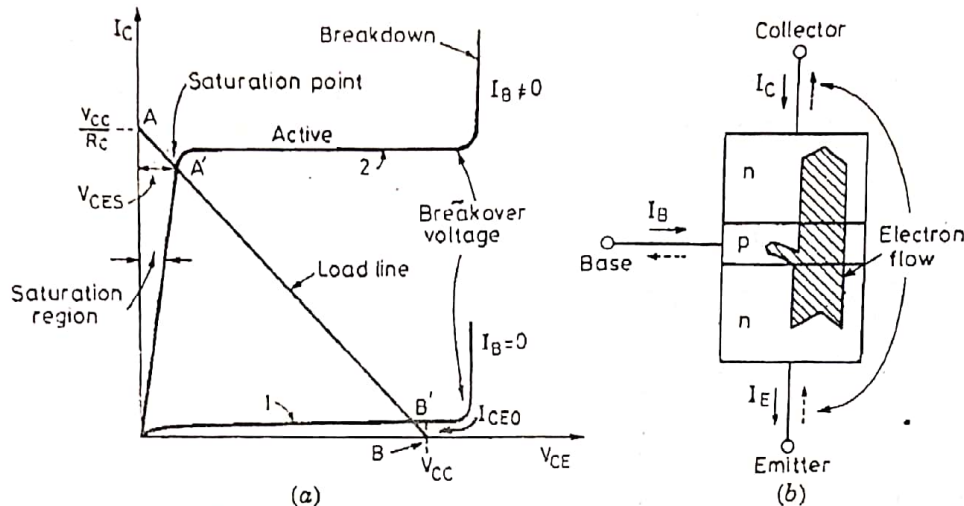
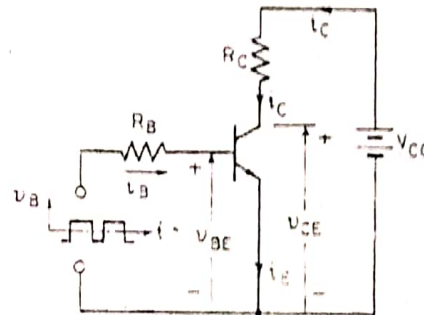
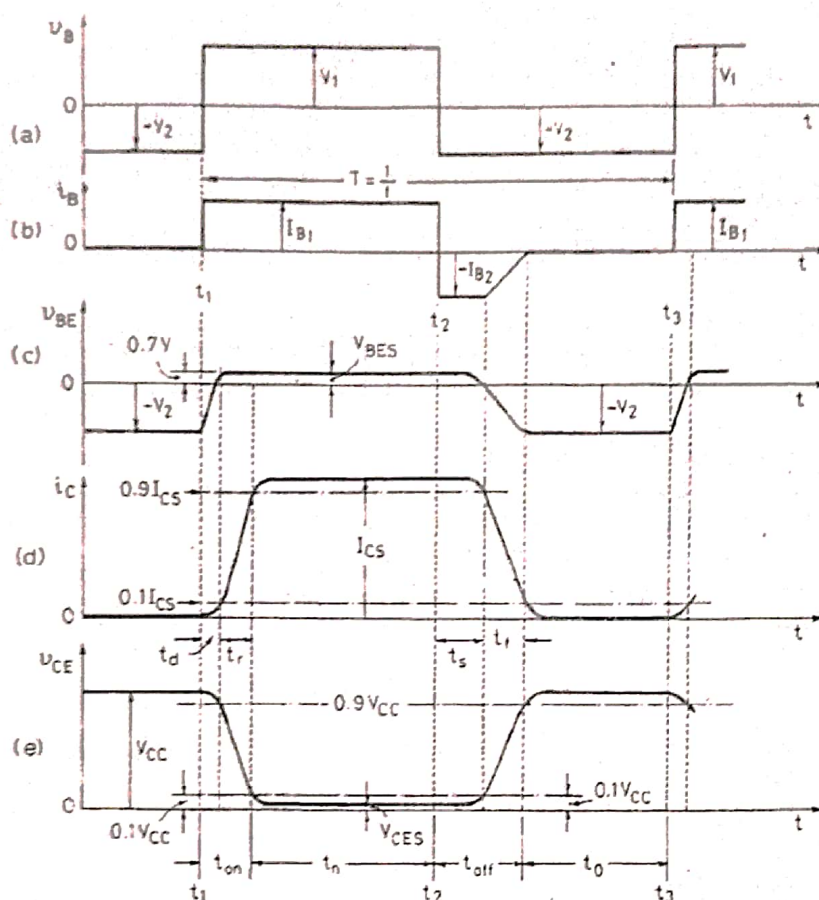

Fig. 2.7. (a) Output characteristics and load line for npn transistor and (b) electron flow in an npn transistor.
Fig. 2.8. *npn* transistor with resistive load.
Fig. 2.9. Switching waveforms for npn power transistor of Fig. 2.8.
Fig. 2.7 (a) shows two of the output characteristic curves, 1 for $I_B = 0$ and 2 for $I_B \neq 0$. The initial part of curve 2, characterised by low V_{CE} , is called the saturation region. In this region, the transistor acts like a switch. The flat part of curve 2, indicated by increasing V_{CE} and almost constant I_C , is the active region. In this region, transistor acts like an amplifier. Almost vertically rising curve is the breakdown region which must be avoided at all costs.
This is the equation of load line. It is shown as line AB in Fig. 2.7 (a). A load line is the locus of all possible operating points. Ideally, when transistor is on, V_{CE} is zero and $I_C = V_{CC}/R_C$. This collector current is shown by point A on the vertical axis. When the transistor is off, or in the cut-off region, V_{CC} appears across collector-emitter terminals and there is no collector current. This value is indicated by point B on the horizontal axis. For the resistive load, the line joining points A and B is the load line.
Relation between α and β . Most of the electrons, proportional to I_E , given out by emitter, reach the collector as shown in Fig. 2.7 (b). In other words, collector current I_C , though less than emitter current I_E , is almost equal to I_E . A symbol α is used to indicate how close in value these two currents are. Here α , called *forward current gain*, is defined as
Transistor Switch. Transistor operation as a switch means that transistor operates either in the saturation region or in the cut-off region and nowhere else on the load line. As an ideal switch, the transistor operates at point A in the saturated state as closed switch with $V_{CE} = 0$ and at point B in the cut-off state as an open switch with $I_C = 0$, Fig. 2.7 (a). In practice, the large base current will cause the transistor to work in the saturation region at point A' with small saturation voltage V_{CES} . Here subscript S is used to denote saturated value. Voltage V_{CES} represents on-state voltage drop of the transistor which is of the order of about 1 V. When the control, or base, signal is reduced to zero, the transistor is turned off and its operation shifts to B' in the cut-off region, Fig. 2.7 (a). A small leakage current I_{CEO} flows in the collector circuit when the transistor is off.
2.5.1.2. BJT Switching Performance. When base current is applied, a transistor does not turn on instantly because of the presence of internal capacitances. Fig. 2.9 shows the various switching waveforms of an *npn* power transistor with resistive load between collector and emitter, Fig. 2.8.
When input voltage v_B to base circuit is made $-V_2$ at t_0 , junction *EB* or *EBJ* is reverse biased, $v_{BE} = -V_2$, the transistor is off, $i_B = I_C = 0$ and $v_{CE} = V_{CC}$, Fig. 2.9. At time t_1 , input voltage v_B is made $+V_1$ and i_B rises to I_{B1} as shown in Fig. 2.9. After t_1 , base-emitter voltage v_{BE} begins to rise gradually from $-V_2$ and collector current i_C begins to rise from zero (actually a small leakage current I_{CEO} exists as shown in Fig. 2.7 (a)) and collector-emitter voltage v_{CE} starts falling from its initial value V_{CC} . After some time delay t_d , called delay time, the collector current rises to $0.1 I_{CS}$, v_{CE} falls from V_{CC} to $0.9 V_{CC}$ and v_{BE} reaches $V_{BES} = 0.7 \text{ V}$. This delay time is required to charge the base-emitter capacitance to $V_{BES} = 0.7 \text{ V}$. Thus, delay time t_d is defined as the time during which the collector current rises from zero to $0.1 I_{CS}$ and collector-emitter voltage falls from V_{CC} to $0.9 V_{CC}$.
After delay time t_d , collector current rises from $0.1 I_{CS}$ to $0.9 I_{CS}$ and v_{CE} falls from $0.9 V_{CC}$ to $0.1 V_{CC}$ in time t_r . This time t_r is known as rise time which depends upon transistor junction capacitances. Rise time t_r is defined as the time during which collector current rises from $0.1 I_{CS}$ to $0.9 V_{CC}$ and collector-emitter voltage falls from $0.9 V_{CC}$ to $0.1 V_{CC}$. This shows that total turn-on time $t_{on} = t_d + t_r$. Value of t_{on} is of the order of 30 to 300 nano seconds. The transistor remains in the on, or saturated, state so long as input voltage stays at V_1 , Fig. 2.9 (a)
In case transistor is to be turned off, then input voltage v_B and input base current i_B are reversed. At time t_2 , input voltage v_B to base circuit is reversed from V_1 to $-V_2$. At the same time, base current changes from I_{B1} to $-I_{B2}$ as shown in Fig. 2.9 (b). Negative base current i_{B2} removes excess carriers from the base. The time t_s required to remove these excess carriers is
called storage time and only after t_s , base current I_{B2} begins to decrease towards zero. Transistor comes out of saturation only after t_s . Storage time t_s is usually defined as the time during which collector current falls from I_{CS} to $0.9 I_{CS}$ and collector-emitter voltage v_{CE} rises from V_{CES} to $0.1 V_{CC}$, Fig. 2.9 (d) and (e). Negative input voltage enhances the process of removal of excess carriers from base and hence reduces the storage time and therefore, the turn-off time.
After t_s , collector current begins to fall and collector-emitter voltage starts building up. Time t_f , called fall time, is defined as the time during which collector current drops from $0.9 I_{CS}$ to $0.1 I_{CS}$ and collector-emitter voltage rises from $0.1 V_{CC}$ to $0.9 V_{CC}$, Fig. 2.9 (d) and (e). Sum of storage time and fall time gives the transistor turn-off time t_{off} i.e. $t_{off} = t_s + t_f$. The various waveforms during transistor switching are shown in Fig. 2.9. In this figure, $t_1 =$ conduction period of transistor, $t_0 =$ off period, $T = 1/f$ is the periodic time and f is the switching frequency.